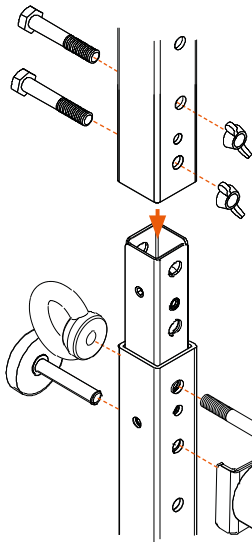

fig: 07
Always assemble the hanger between two length profiles. (fig: 07)
Connect Safety set (provided with all Freedom hangers) by using a bolt. You can use the safety eye instead of the wingnut. (fig: 07)
Step 1 (fig: 07)